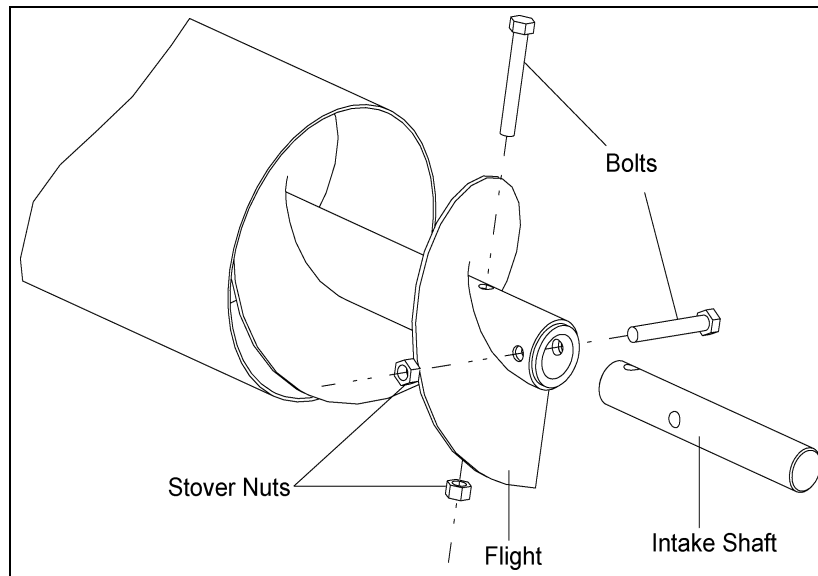

Figure 4A
- A. Begin by assembling the intake shaft to the flight using the required Grade 8 bolts and stover nuts. (See Chart Below) and (See Figure 4A)